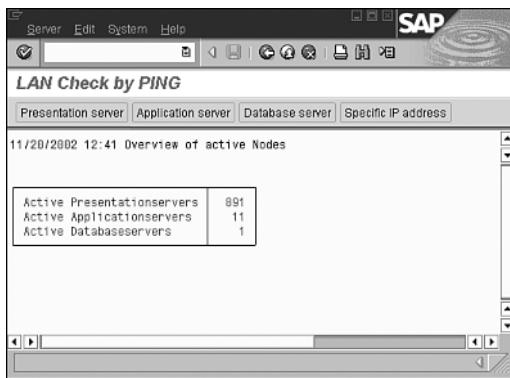

FIGURE 16.8 Though simple, CCMS transaction OS01 provides powerful up-to-date rolled-up user data, and in doing so creates a predictable load.
- For really basic load tests, especially in the case where no user data is yet available, it’s possible to gain a respectable amount of value from stress testing by executing a set of scripted Basis (as opposed to functional) transactions. These kinds of tests best support hardware delta testing, which I spoke of previously. Comparing one system to another can be accomplished by measuring total dialog steps processed for a finite run (of say 30 minutes), or calculating average response time, or simply monitoring the number of times a particular loop of transactions executed. Typical Basis transactions that are available even before any developers customize an SAP system include ST02, ST04, ST06, ST07, OS01, SM50, SM51, SM66, DB02, RZ10, and a host of others—the idea is to find a set of transactions that are not only relatively easy to script, but also that make database calls or CPU requests, like OS01 depicted in Figure 16.8.